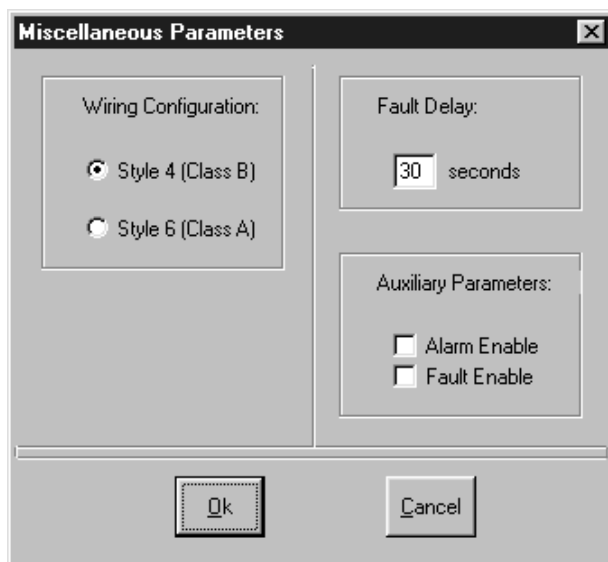

Figure 4-3. Miscellaneous Parameters
2. Select **Setup>Miscellaneous**. The Miscellaneous Parameters window opens, as shown in Figure 4-3.